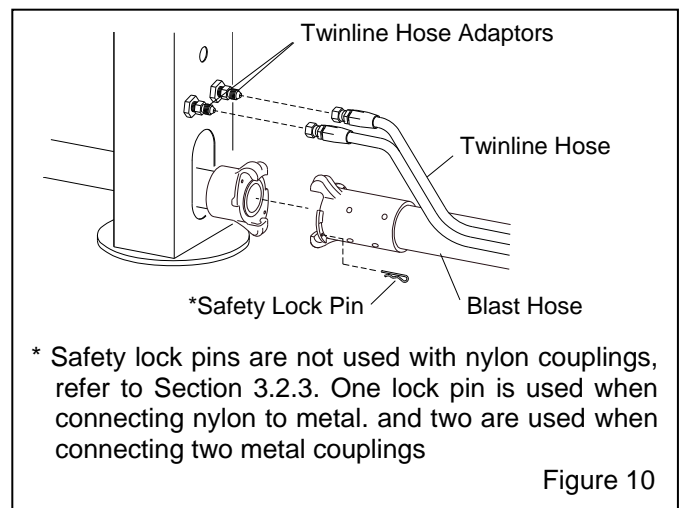

Figure 10
3.2.5 Attach the ends of the 50-ft. twinline hose to the lower adaptors in the bulkhead fittings on the front leg as shown in Figure 10. Either side of the twinline hose can be attached to either fitting.